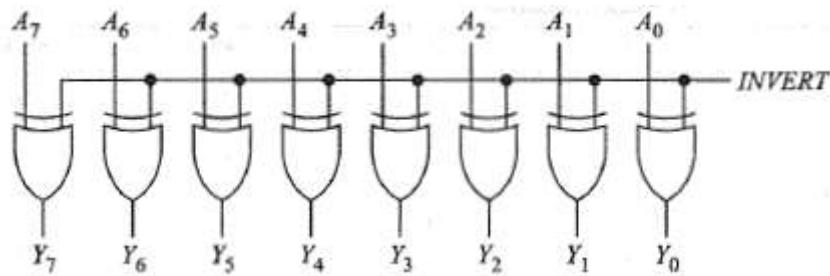

Figure 6.5: Controlled inverter
- When INVERT is low, it transmits the 8-bit input to the output (Figure 6.5).